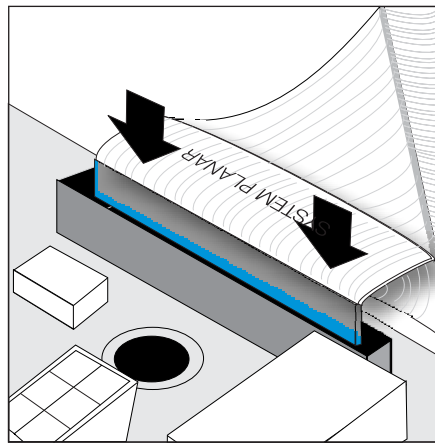

Figure 134. Install service controller cable into the system board
- Carefully install the end of the ribbon cable (marked System Planar) to the system board, being sure to install the cable straight in. See Figure 134. Be sure to verify that the blue line on the cable connector end is not visible.